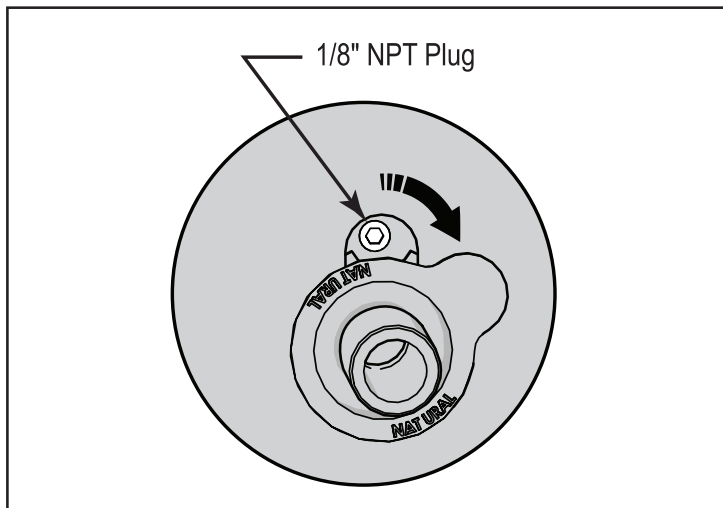

Figure 14. Rotate the Sealing Grommet to Expose the NPT Plug
5. Rotate the sealing grommet 90° right to expose the inlet pressure port plug (Figure 14).